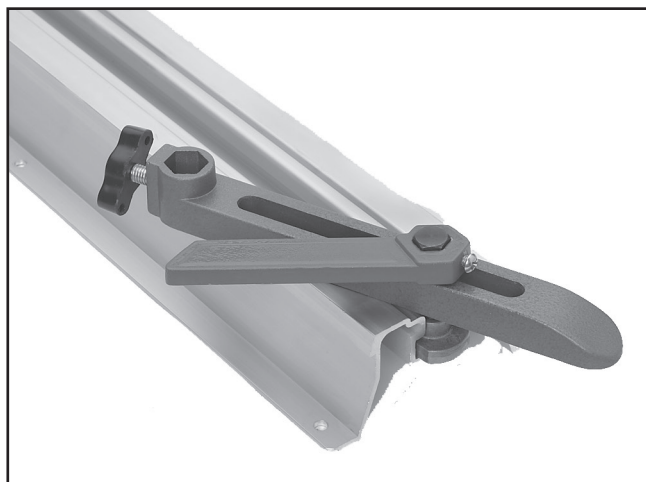

Figure 7. Mounting the toolrest base.
4. Slide the toolrest base to the middle of the lathe bed, starting from the end opposite the headstock, as shown in **Figure 7**.